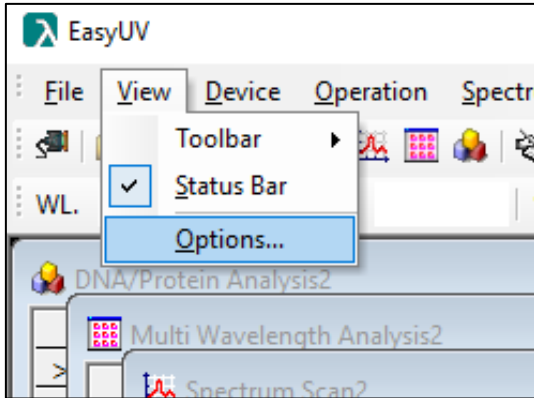

Fig. 2.6-1 Options
- menu **View** select **Options** (Fig. 2.6-1);
Menu **View**, select **Options** (Fig.2.6-1). In the box it is possible to configure some settings chosen by the user.